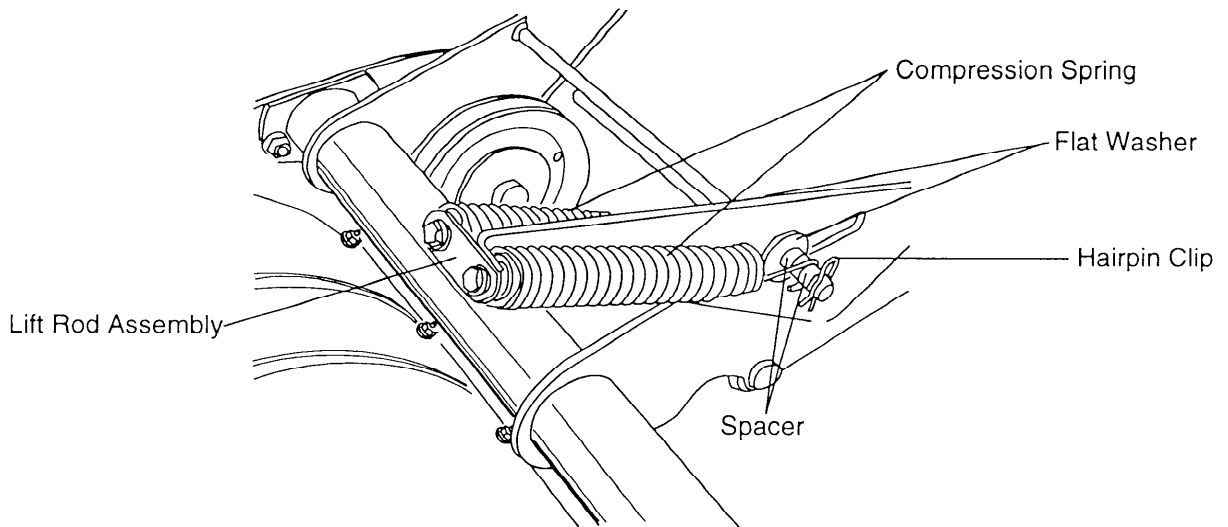

Figure 7
- Attach the lift rod assembly to the rod which is part of the pivot bracket assembly as follows. See Figure 7.